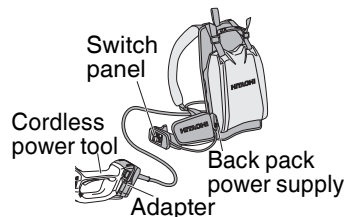

Fig. 12
1. Check to confirm that the main switch is off. (Fig. 12)
4. Plug the adapter into the cordless power tool. (Fig. 12)